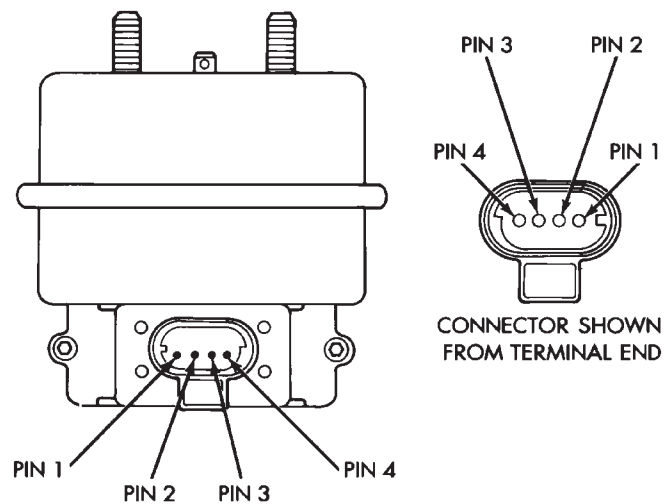

Fig. 6 Servo Harness Connector
- (1) Turn ignition switch to the ON position. With the speed control switch in the ON position, set up a voltmeter to read battery voltage and connect the negative lead to a good chassis ground.
- (2) Disconnect the four-way connector going to the servo (Fig. 6). Test pin 2 of the main harness four-way connector for battery voltage. If not OK go to step 3. If voltage is OK go to step 4.
(4) Connect a jumper wire between pin 2 of the four-way servo connector of the main harness and pin 2 of the speed control servo (Fig. 6). The other three pins from the servo should show battery voltage. If not, replace the servo.
(5) Using an ohmmeter, connect one lead to a good body ground. With the other lead touch pin 1 in the four-way servo connector of the main harness. The meter should show continuity. If not, repair the ground circuit as necessary.
(9) If no voltage, repair the wire between pin 53 and pin 3 of the speed control servo (Fig. 6). If voltage is OK go to step 8.
(10) Place speed control switch in the OFF position. Touch the positive lead of the voltmeter to pin 33, voltmeter should read 0 volts.
(11) Place speed control switch in the ON position. Touch the positive lead of the voltmeter to pin 33, the voltmeter should read battery voltage.
(12) If no voltage, repair the wire between pin 33 and pin 4 of the speed control servo (Fig. 6). If voltage is OK go to step 11.
(13) Using an ohmmeter, connect one lead to a good body ground and touch the other lead to pin 29. With the brake pedal released, the meter should show continuity. When the pedal is depressed, the meter should show no continuity. If no continuity perform the following test:
(1) Remove the speed control cable at the throttle body end.
(2) Disconnect the 4-way electrical connector and the vacuum harness at the servo (Refer to Fig. 6).
(3) Connect battery voltage to pin 2 of the servo.
(4) Ground the remaining three servo pins 1, 3 and 4.
(5) Connect a hand held vacuum pump to the servo vacuum nipple and apply 10 to 15 inches of vacuum.
(6) The cable should pull in and hold for as long as vacuum is applied.